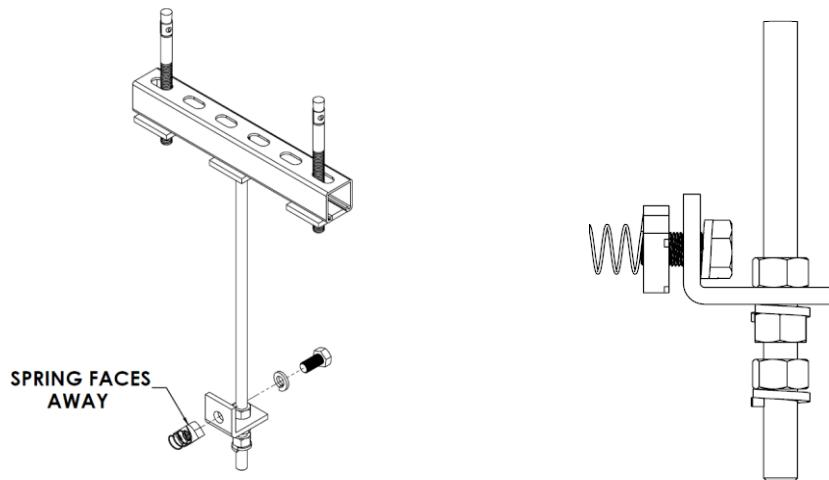

Figure 261: **Strut Channel Nut Threaded with Spring Facing Away**
c. Loosely thread the strut channel nut on to the end of the bolt with the spring facing away from the 90° strut fitting (Figure 261).